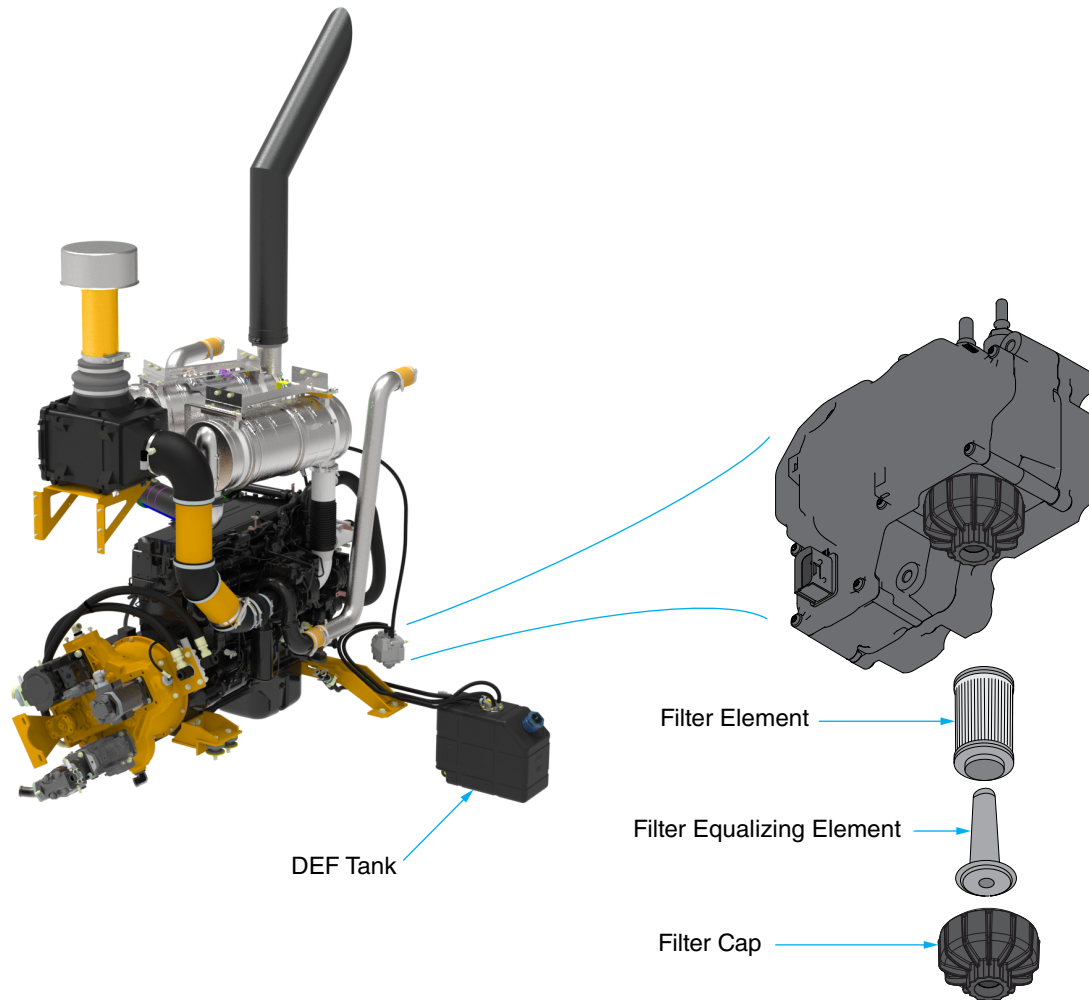

Figure 5-5-15 Aftertreatment Dosing Unit Filter
**Service Interval:** At 4,500 hours, or 2 years, or as dictated by a fault code, whichever occurs first. See Figure 5-5-15.